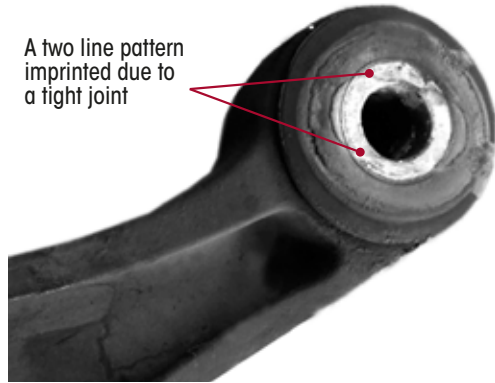

Figure 13: Joint in Good Condition
3. No replacement is needed if the bush exhibits a tight joint. (Refer Figure 13.) An imprinted two-line wear pattern on the bush inner metal indicates the pivot bush is securely clamped in the frame hanger.